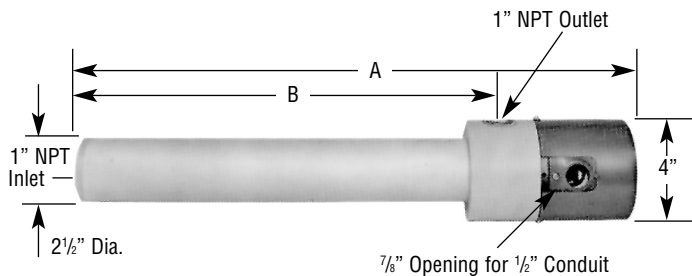

Figure 1
4. Make piping connections to either new or existing plumbing at the 1" x 11 1/2" N.P.T. threaded inlet and outlet as shown in Figure 1.